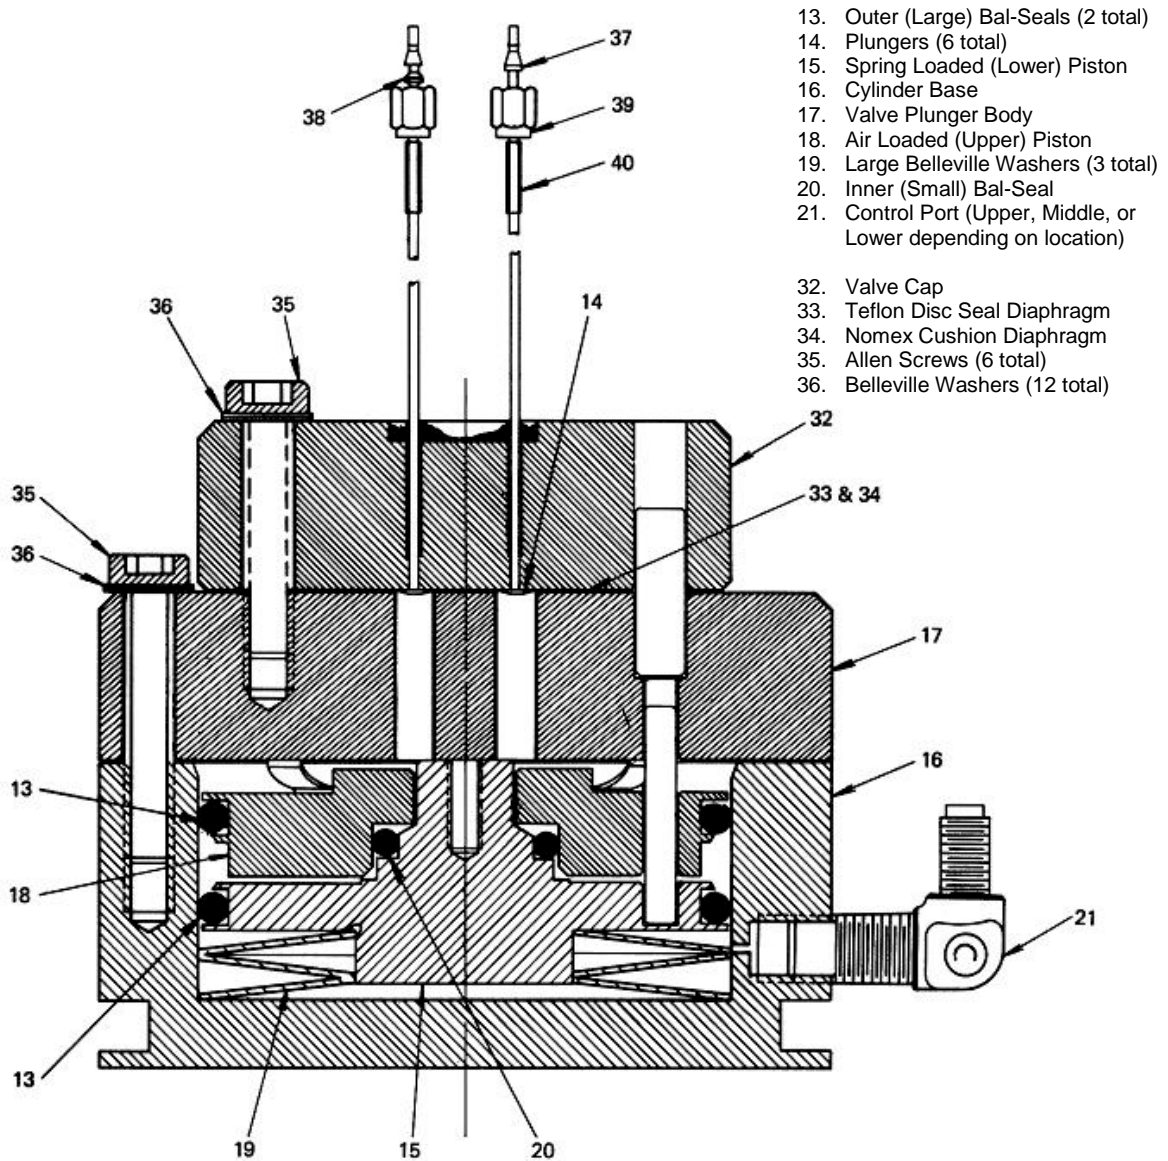
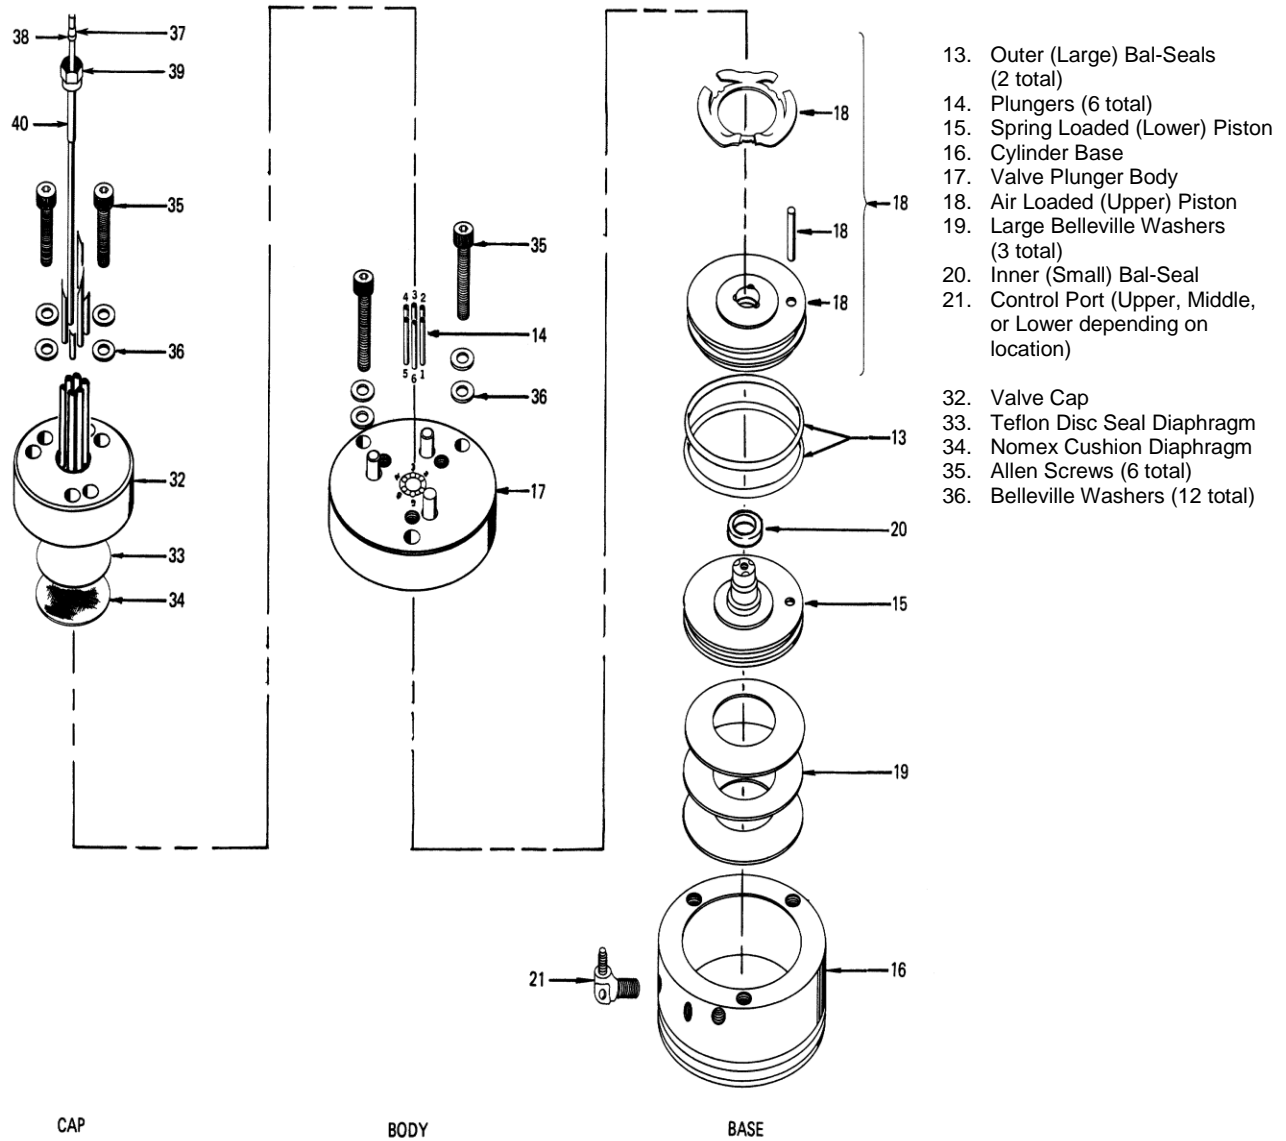
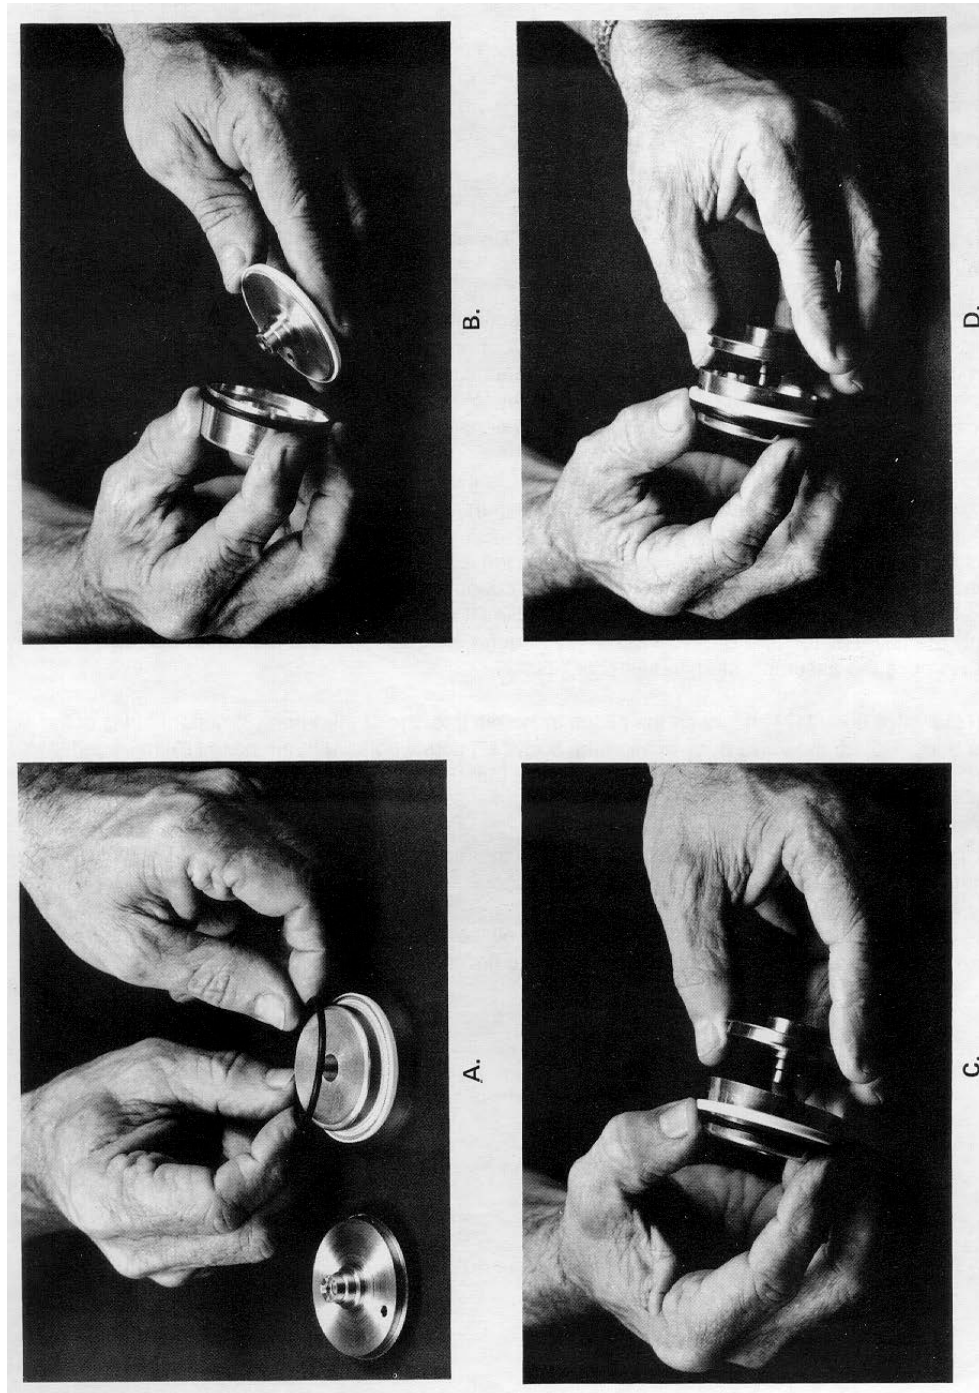

Figure 4-34: Section View of Model 20 HTV
Figure 4-35: Exploded View of Model 20 HTV
Figure 4-36: Assembling Bal-Seal (13) on Piston (15)
Escaping air from valve vent hole indicates a ruptured diaphragm (33), which must be replaced. Check for liquid substances escaping from the vent hole. Refer to Figure 4-34.
Improper lubrication and/or contamination of Bal-Seals will increase friction on valve-actuating piston. This causes valve switching to be erratic, slow or inoperative. Refer to Figure 4-34.
The following procedures should be followed for performing Mini-Maintenance on the Model 20 HTV. Refer to Figure 4-34 and 4-35.
8.	Place the actuator assembly upright on a clean lint free cloth surface. Refer to Figures 4-34 and Figure 4-35.
12.	Install the three large Belleville washers (19) in cylinder valve base (16). Washers must be positioned in an alternating bevel up, bevel down manner (to form a spring). Refer to Figures 4-34 and 4-35.
13.	Apply a bead of Krytox 240 AC lubricant, or equivalent, in Bal-Seal grooves of spring loaded piston (15)
14.	Lubricate outside diameter of assembly tool (Part Number A00145). Be certain spring-loaded Bal-Seal (13) is properly oriented with the associated spring facing up.
15.	Using an "O" ring as a cushion, push spring loaded Bal-Seal (13) down on the assembly tool until it snaps firmly into spring loaded piston (15) ring groove. Refer to Figure 4-36.